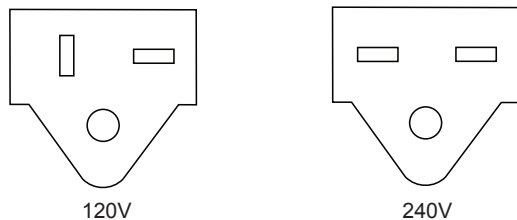

Fig. 2-19, Line Cord Plugs
3. Connect the correct power cord to the power supply (see **Fig. 2-19**).